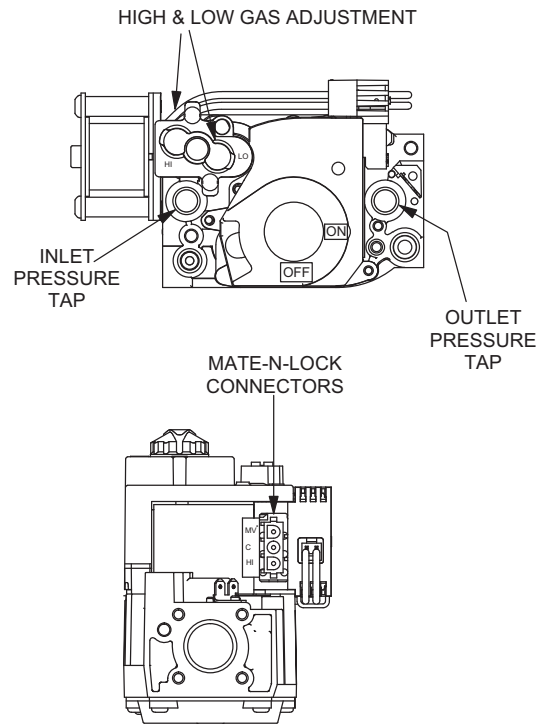

FIGURE 29 - TYPICAL GAS VALVE
4. Turn gas valve clockwise to "OFF" position (See Figure 29).
This gas furnace has two heat stages. Therefore, the gas valve has two adjustment screws located under a plastic protective cover. The second stage (100% input) adjustment screw is adjacent to the "HI" marking on the valve and the first stage (60% input) adjustment screw is located adjacent to the "LO" marking on the valve (See Figure 29).